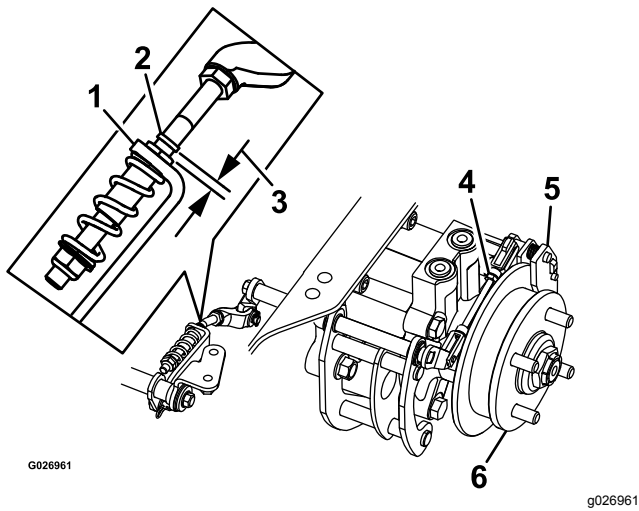

Figure 73
7. Check to see if there is a visible gap between the L-bracket and the linkage stop (Figure 73).